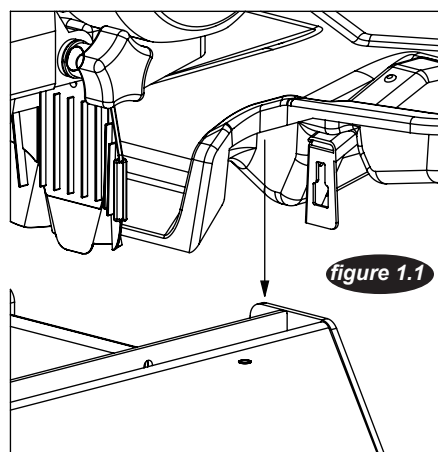

figure 1.1
2. Attach rear drip tray by either sliding the two metal clips of the tray onto the corresponding tabs located at the rear of the saw frame, or if not applicable slide the fold found on the rim of the drip tray rim onto the frame itself (see figure 1.1).